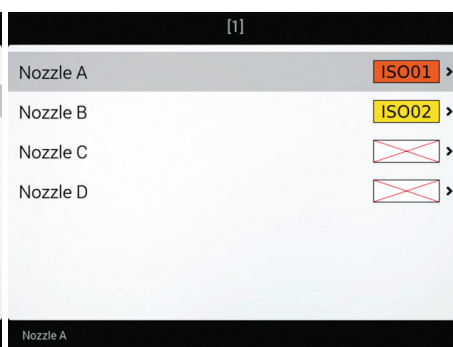

Fig. 33
- Select the nozzle you wish to set up (A, B, C or D, in Fig. 33).